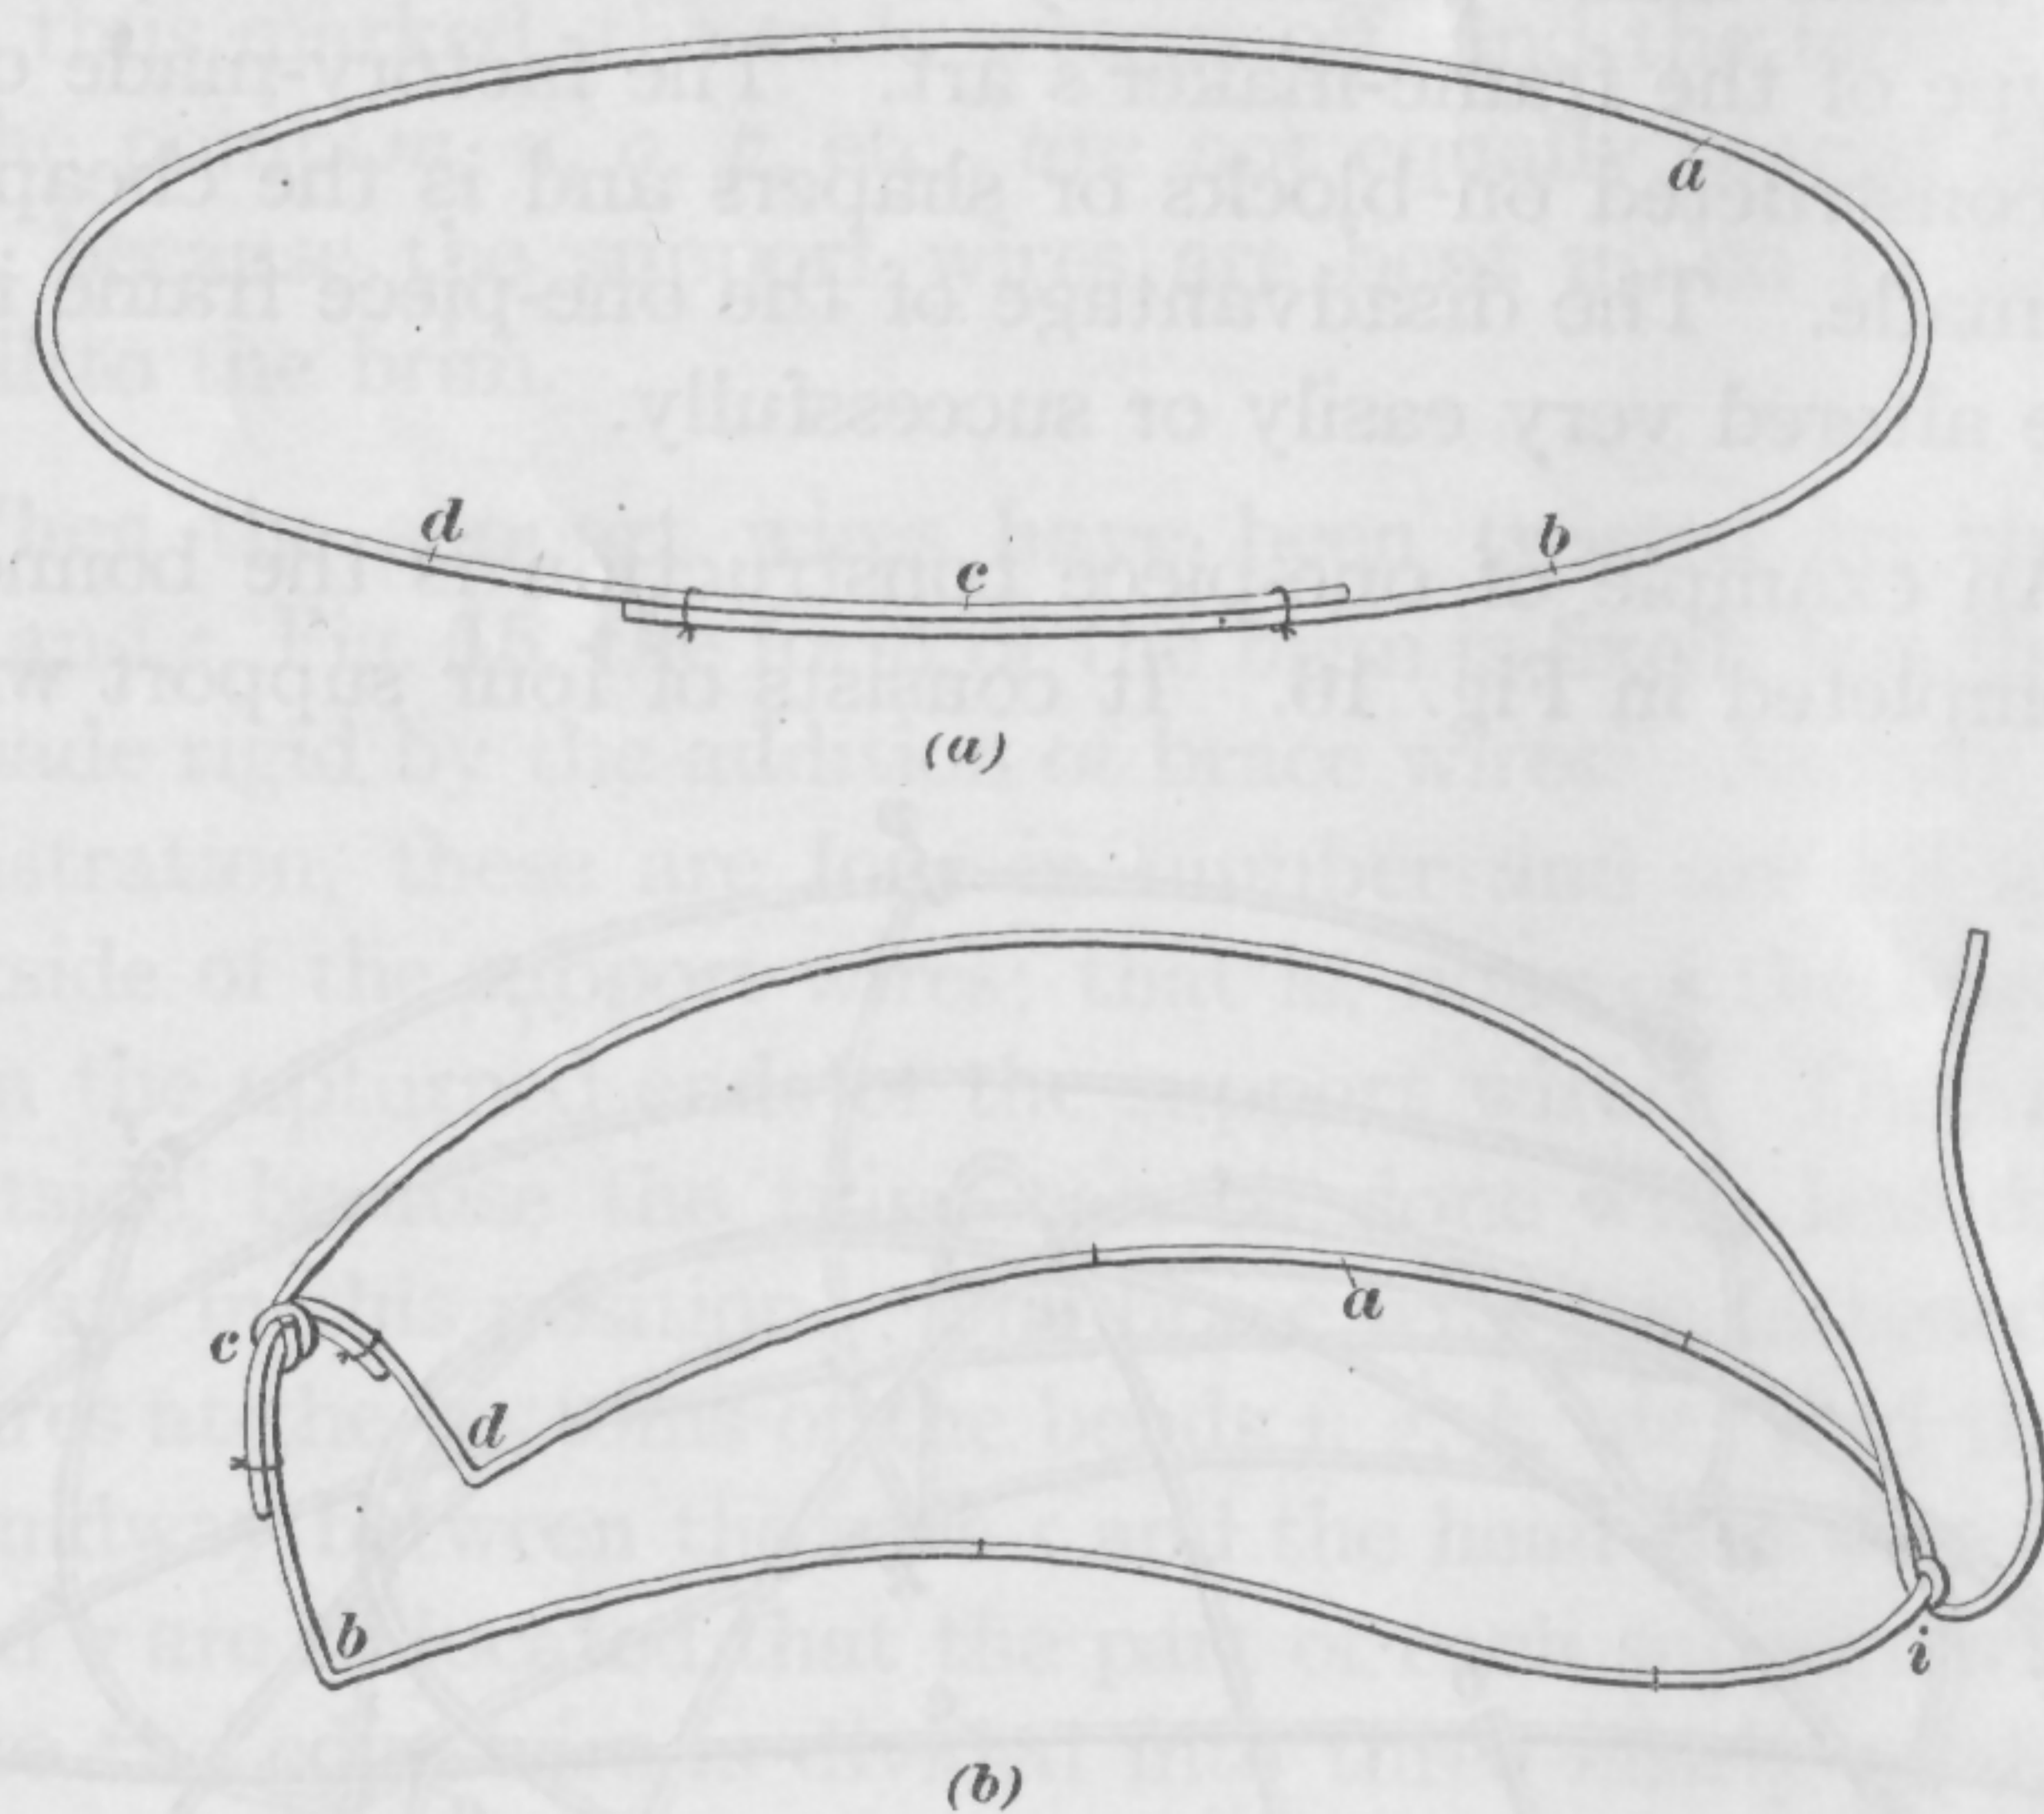
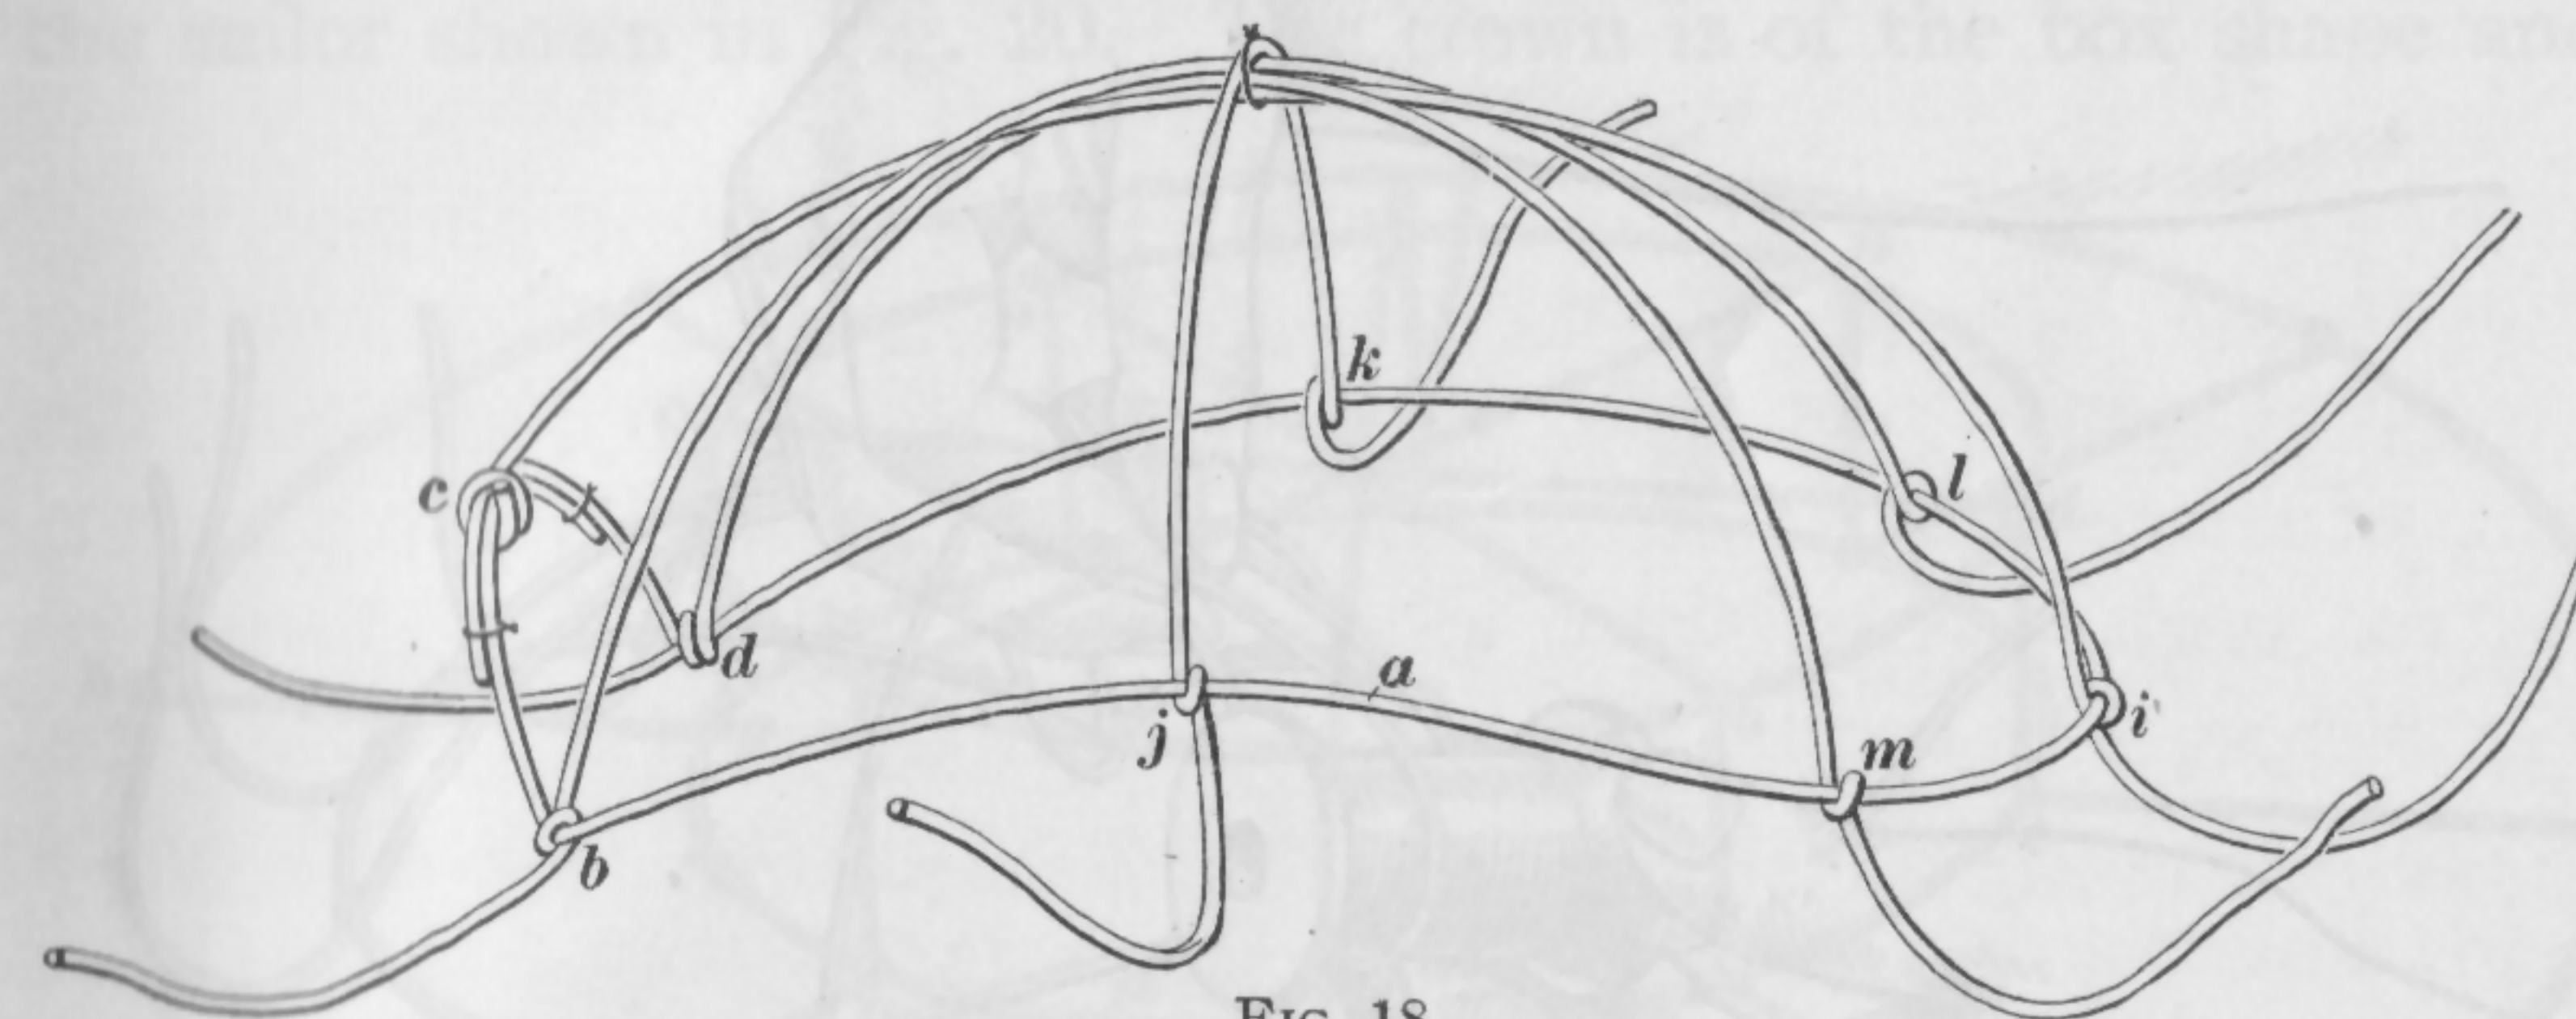

FIG. 17
FIG. 18
**30.** The beginning of the bonnet frame is shown in Fig. 17 (a). Make a 24-in. head-size wire  $a$  by taking a piece of brace wire 27 in.
head-size wire that extend from the points  $b$  and  $d$ , Fig. 17 (b), to the front of the bonnet at  $i$  should be curved upwards, as shown.
**31.** After the head-size wire has been bent to shape as in Fig. 17, the support wires should be fastened to it, as shown in Fig. 18. Put on the support wire from back to front first. The length from  $c$  to  $i$  is  $9\frac{1}{2}$  in., and another  $6\frac{1}{2}$  in. should be allowed for the roll of the brim and for twisting around the edge wire. Therefore, take a piece of brace wire  $9\frac{1}{2} + 6\frac{1}{2} = 16$  in. long, twist one end around the head-size wire  $c$ , then measure off  $9\frac{1}{2}$  in. from the point  $c$  and at that point twist the support wire around the head-size wire at the front mark  $i$ . The side-to-side support wire is next put on. It has a length of  $9\frac{1}{2}$  in. from  $j$  to  $k$ , and the roll at each end requires 4 in. To this must be added 2 in. at each end for twisting; consequently, the length of wire
required for this support wire is  $2 + 4 + 9\frac{1}{2} + 4 + 2 = 21\frac{1}{2}$  in. Measure off 6 in. from one end and at that point twist it around the head-size wire at  $j$ . Measure off  $9\frac{1}{2}$  in. and at the point thus found twist it around the head-size wire at  $k$ . The diagonal support wires are alike and the lengths from  $b$  to  $l$  and  $d$  to  $m$  are  $10\frac{1}{2}$  in. each. The roll at the front end of each wire is 4 in. and at the back is  $2\frac{1}{2}$  in.; so, allowing 2 in. at each end for twisting, each of these support wires must be  $2 + 2\frac{1}{2} + 10\frac{1}{2} + 4 + 2 = 21$  in. long. Measure off  $4\frac{1}{2}$  in. from one end of each wire and at the points thus found twist these wires around the head-size wire at  $b$  and  $d$ . Measure off  $10\frac{1}{2}$  in. more on each wire, and at these points twist the support wires fast at  $l$  and  $m$ . Then tie the support wires together where they cross at the top of the crown. The frame at this stage will appear as in Fig. 18.